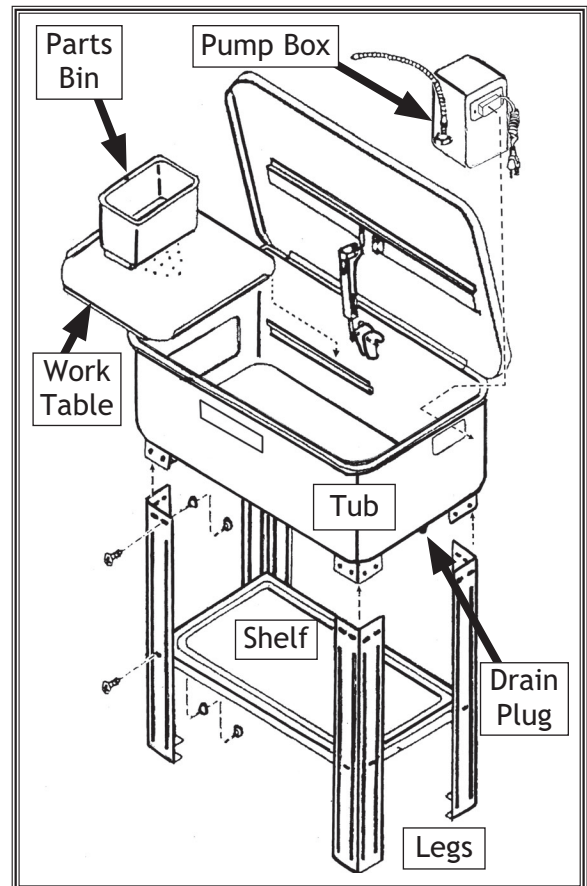

Figure 1. Assembly diagram.
Inventory (Figure 1)
1. Layout the parts and use **Figure 1** to inventory them.
4. Use a 19mm wrench to install the spout and tube onto the pump outlet (**Figure 1**).